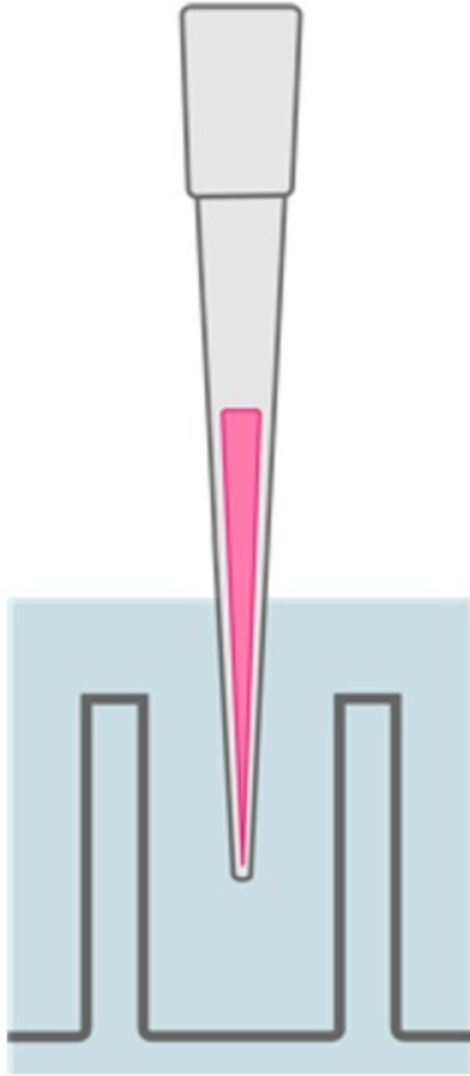
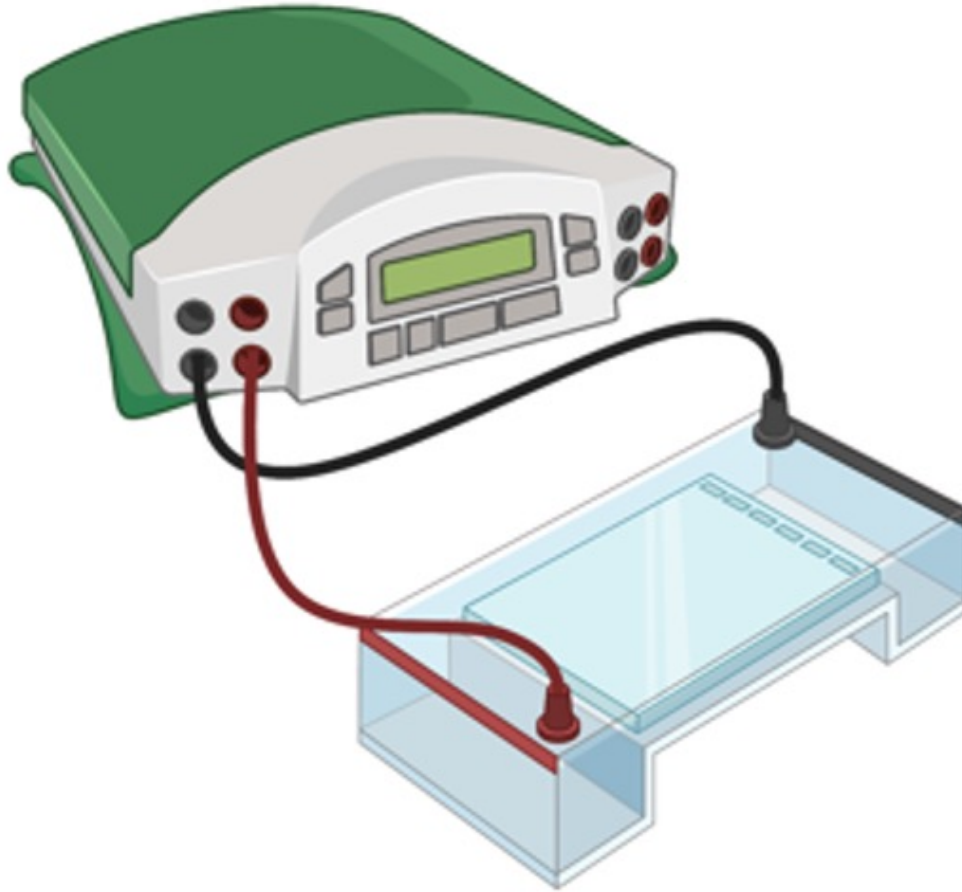
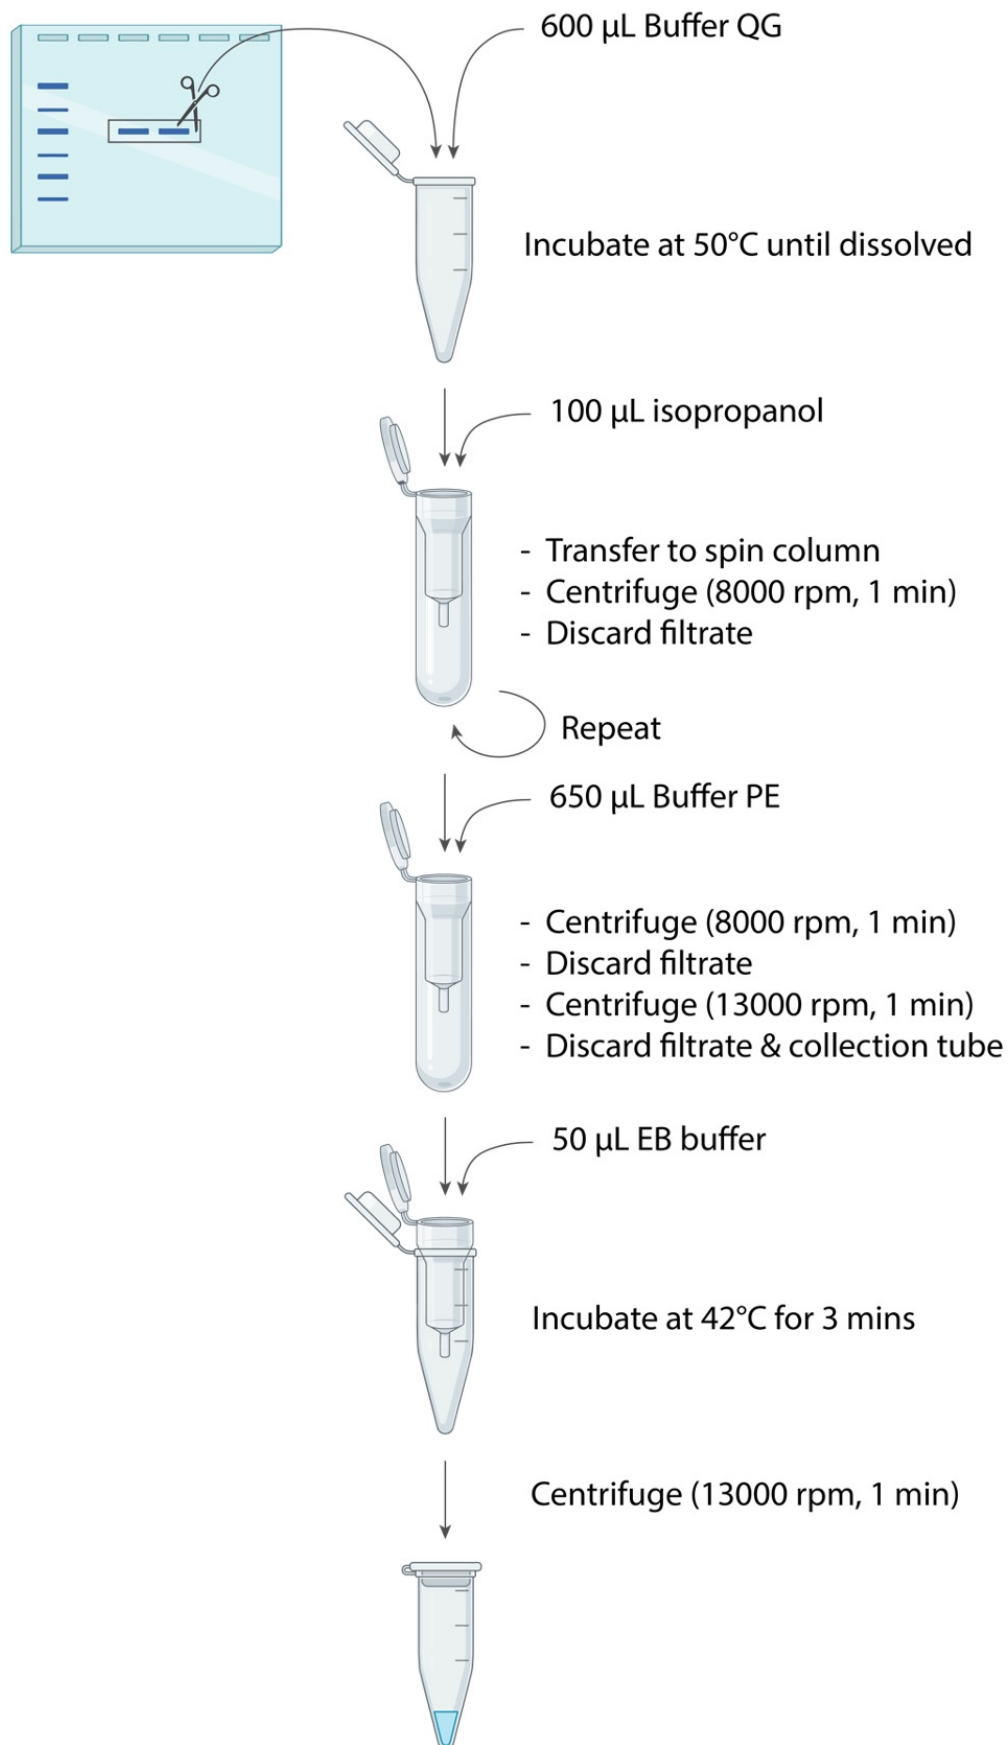

Figure 3.
Figure 4. Gel connected to power supply ^[3]
Figure 7. *Gel extraction workflow* ^[3]
3. Figure 4, and part of Figure 3, Figure 7 are created with **BioRender.com**